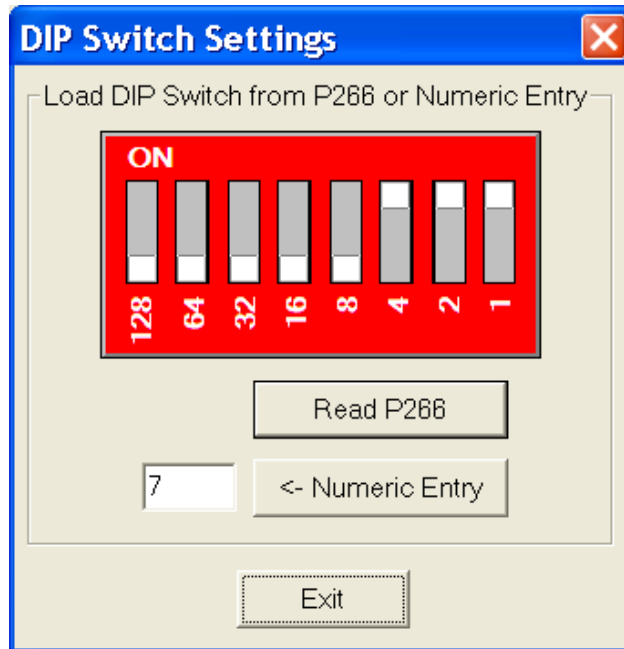

Figure 12: DIP Viewer Screen
- **Read P266:** Clicking this button causes the P266 Utility to read the DIP switch of the P266 Speed Control that it is connected to. Following a successful read, the DIP switch graphic is updated to match the value from the speed control, and the numeric entry field contains the decimal equivalent of the actual DIP switch on the speed control. In the example shown in Figure 12, the DIP switch on the P266 Speed Control is set to a value of 7.